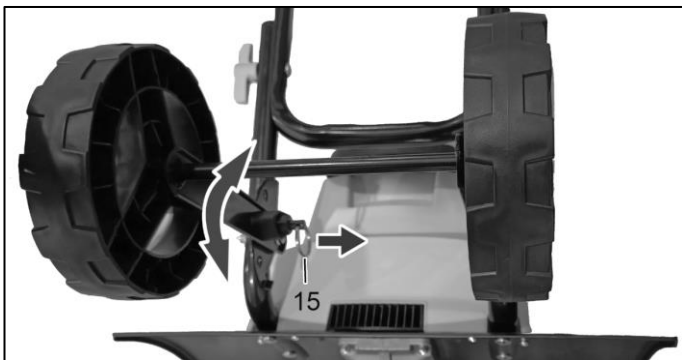

Fig.11
How do you change the mode? Pull out the lock pin (15), turn the wheel to upper or lower position and then release the lock pin (15) to lock it in place. (Fig.11)
Always pull out the power cord before transporting! Pull the lock pin (15). You can now move the wheels (7) to the lower position. Make sure that the lock pin (15) engages again in the lower position. (Fig. 11)